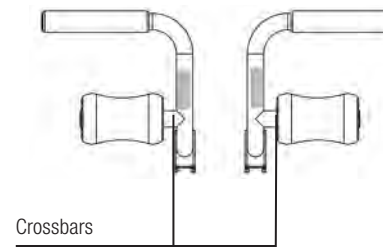
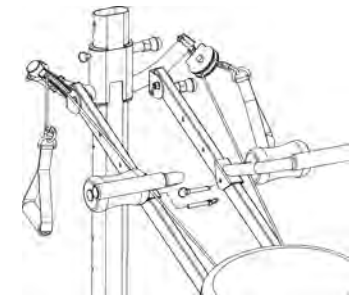

FIGURE 1
FIGURE 2
If the Stopper at the bottom of the Vertical Column has not already been installed, please do so now. Locate the Stopper which is packed in Miscellaneous Accessories (See Product Specifications on page 4 of this manual). Unscrew nut on the end of the Stopper and remove. Insert the Stopper into the hole located in the center of the Back Crossbar (See Fig. 1). Screw the nut back onto the Stopper and tighten with Allen Wrenches provided (See Fig. 2).
2. Then attach Foam Pads on the Crossbars as shown in Figure 1. Let dry before beginning to exercise with the Multi Function Attachments.
3. Insert the 2 Short Hitch Pins through the holes on the Multi Function Attachment Brackets and the hole on the Rails, as shown in Figure 2.